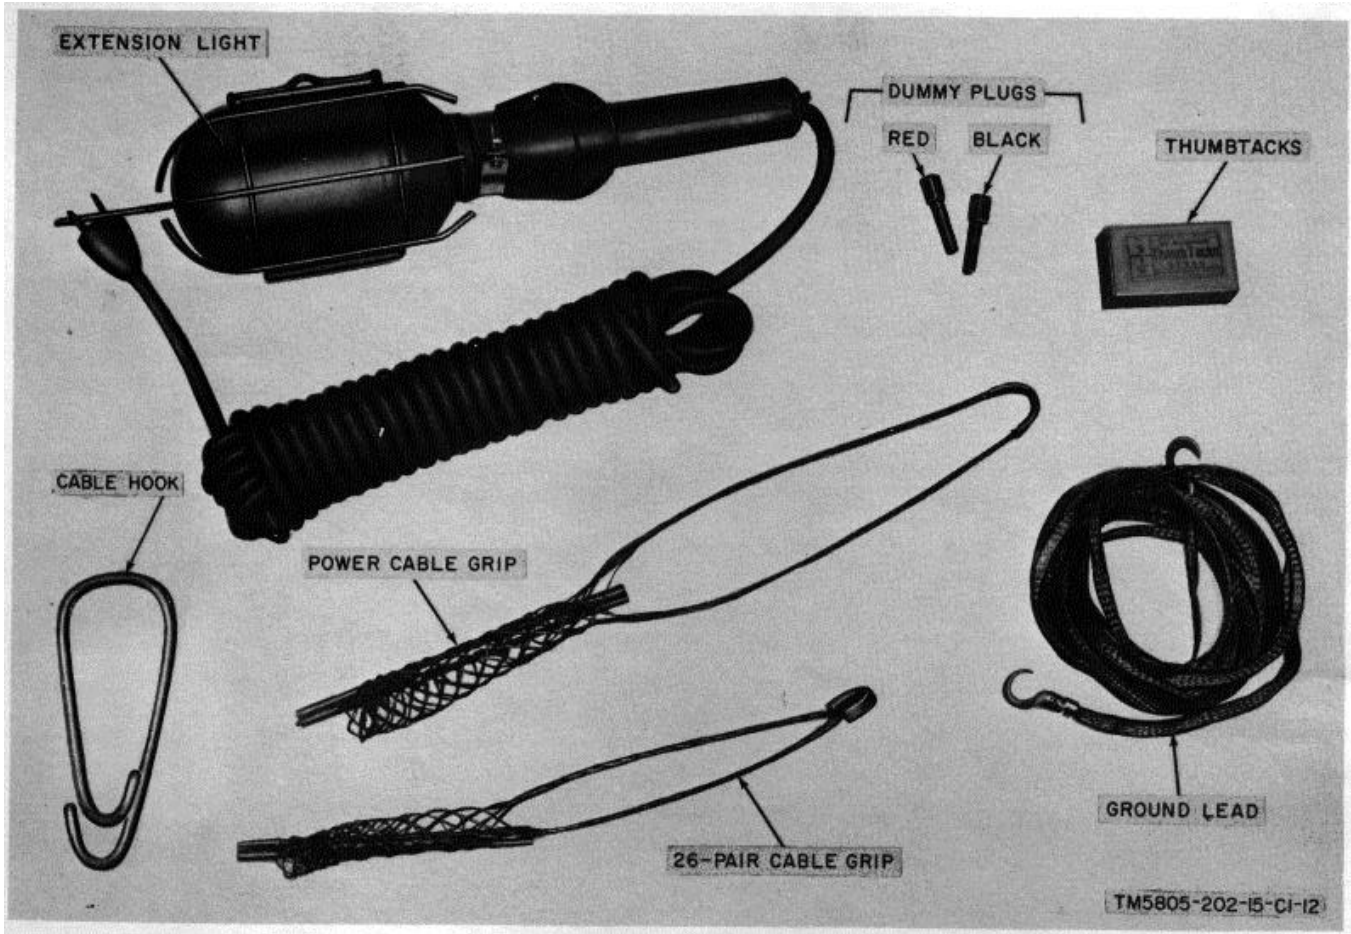

Figure 2. Miscellaneous components stored in ACCESSORIES & SPARES CABINET NO. 2
c. Components Stored in ACCESSORIES & SPARES CABINET NO. 2 (fig. 2). The miscellaneous components stored in the ACCESSORIES & SPARES CABINET NO. 2 are listed below.